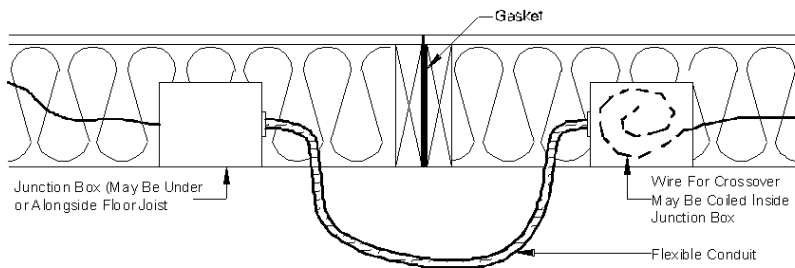

Figure 65. Under the rim joist electrical crossover connection with conduit
- 2. Connect wires.** If wire is coiled inside one junction box, insert it into conduit and pass it under the rim joists to the opposing box and make the connection as described above. If no coiled wire is provided, install conduit with wire making connections in both boxes (Figure 65).